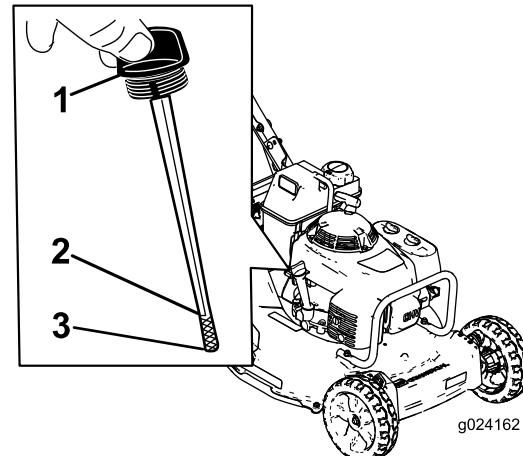

Figure 6
Before each use, ensure that the oil level is between the Add and the Full marks on the dipstick (Figure 6).
- Clean around the dipstick (Figure 6).